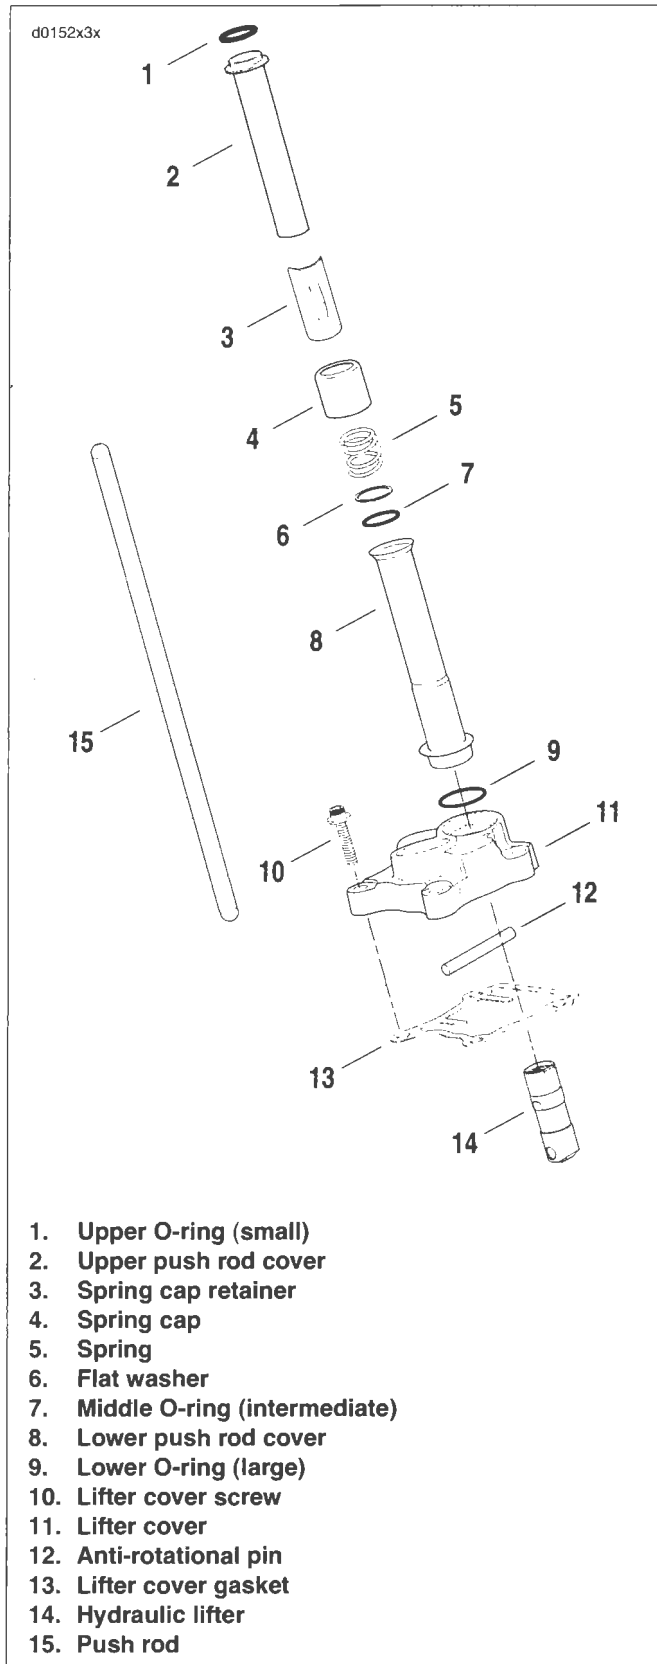

Figure 3-96. Push Rods, Lifters and Covers
See Figure 3-96. With the exception of the lifter covers, all parts should have been disassembled and marked during the removal procedure. Disassemble the lifter covers as follows:
1. See Figure 3-96. Scrape old gasket material from the lifter cover (11) flange. Old gasket material left on mating surfaces will cause leaks.
2. With the exception of the hydraulic lifters (14), clean all parts in a non-volatile cleaning solution or solvent. Verify that the O-ring seats and contact surfaces of the push rod covers (2, 8) are completely clean.